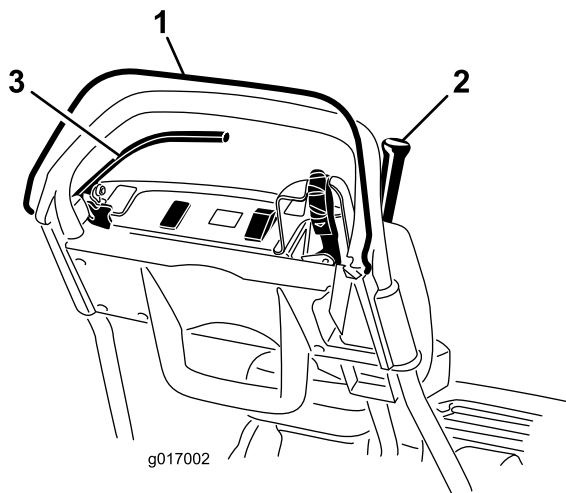

Figure 34
3. With the OPC released, attempt to engage the traction lever (Figure 34). The traction lever should not engage. If the traction lever engages, the interlock system needs service. Correct the problem before operating the machine; refer to Servicing the Traction Interlock Switch \(page 35\).
4. With the OPC pressed and the traction lever engaged, release the OPC (Figure 34). The traction lever should disengage. If the traction lever does not disengage, the interlock system
5. With the OPC pressed and the shift lever moved to the left, engage the traction and reel drive, release the OPC (Figure 34). The traction lever should disengage. If the traction lever does not disengage, the interlock system needs service. Correct the problem before operating the machine; refer to Servicing the Traction Interlock Switch \(page 35\) or Adjusting the Reel Control \(page 39\).